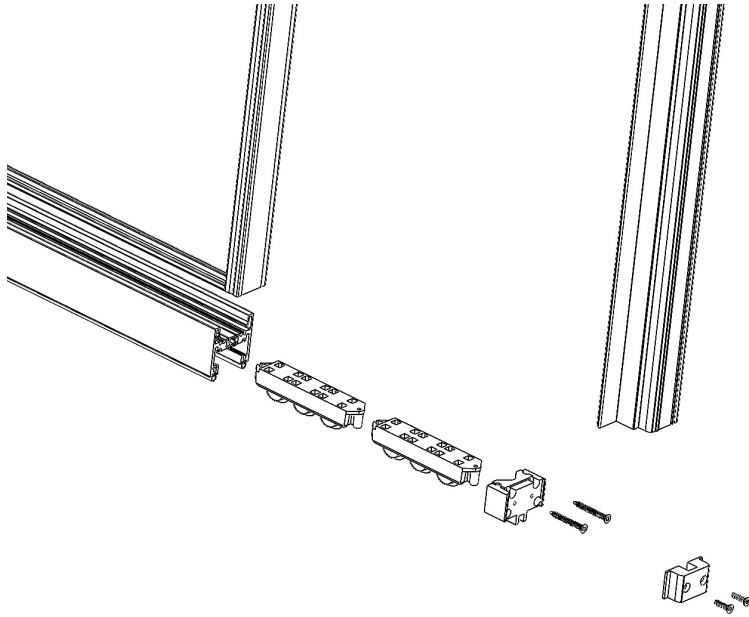

Figure 8
6. Taking care not to scratch or shift the lead panel over. With a pry bar, lift the panel high enough to slide the roller assembly system into place. Ensure that all rollers rest onto the track cap and roll freely. (See Figure 8)